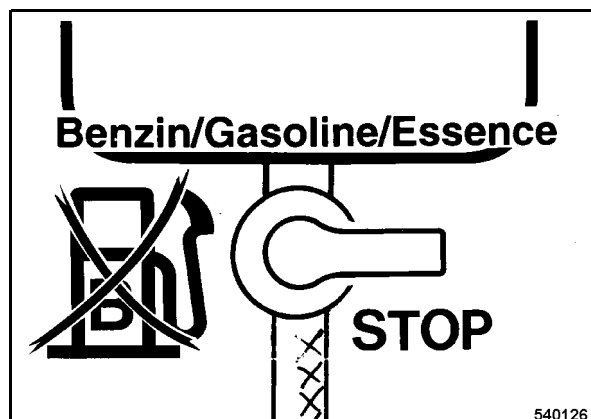

Fig. 51
- Set the fuel valve (Fig. 51) to "STOP" position (closed).